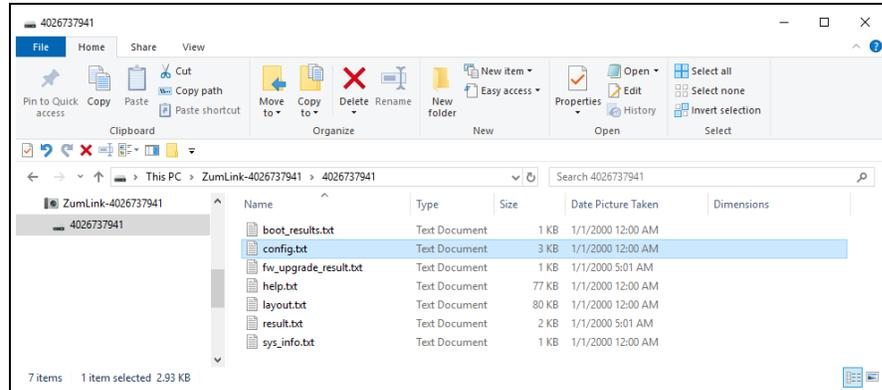

Figure 46: Opened ZumLink window Showing the Default Files
3. Select the **config.txt** file and copy it to the clipboard (press <Ctrl+C>). Figure 46